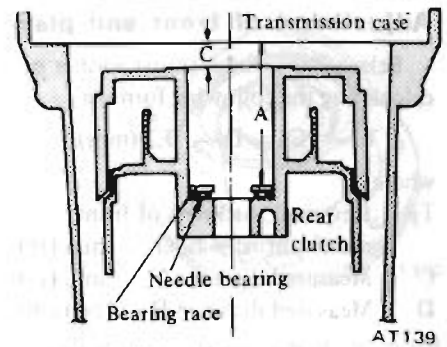

Fig. AT-75 Measuring the distance "A" and "C"
(1) Measure the distance "A" and "C" by vernier calipers as shown in Figure AT-75.